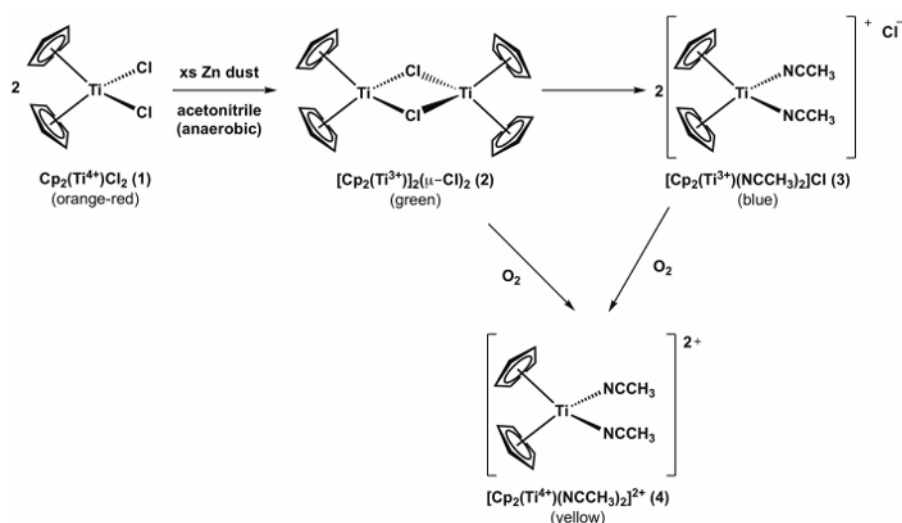

Figure 1. Synthesis of Ti(III) metallocene compound 3 and its reaction with O₂.
The synthesis of a Ti(III) metallocene compound 3 is shown in **Figure 1**.¹ Compound 3 is highly reactive with O₂, (see oxidation of compound 3 to Ti(IV) metallocene 4 shown in **Figure 1**). Therefore, it is important to run the synthesis under anaerobic conditions. The synthesis of target compound 3 can be monitored visually and progresses through one additional color change before arriving at the desired product, which is blue in color. If during the experiment there is an observed color change from blue to yellow (or green = blue + yellow), this is an indication that O₂ entered the flask and that undesired oxidation of compound 3 to the Ti(IV) analog (compound 4) has occurred.
1. Weigh 100 mg (0.40 mmol) of solid dicyclopentadienyltitanium(IV) dichloride (compound 1, **Figure 1**) and 78 mg (1.2 mmol) zinc dust into a Schlenk flask (Schlenk flask A).